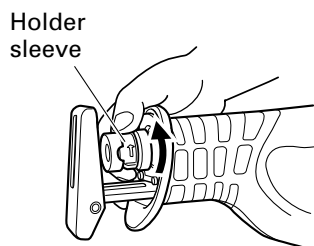
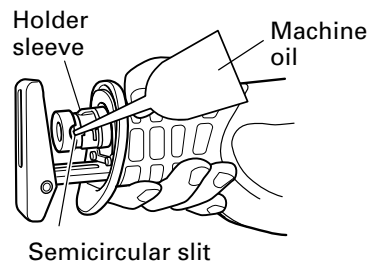

Fig. 7
Fig. 13
- (2) Turn the holder sleeve in the direction of the arrow mark shown in Fig. 7 marked on the holder sleeve. If you turn the holder sleeve halfway you will be able to secure it automatically. (Fig. 7)
(2) After you have turned the holder sleeve in the direction of the arrow mark shown in Fig. 7 and secured it, turn the blade so it faces downward. The blade should fall out by itself. If the blade doesn't fall out, pull it out by hand.
- (1) After use, blow away sawdust, earth, sand, moisture, etc., with air or brush them away with a brush, etc., to ensure that the blade mount can function smoothly.
- (2) Periodically lubricate the saw blade mount with machine oil through the semicircular slit at a state where the holder sleeve is turned in the direction of the arrow mark shown in Fig. 7. (Fig. 13)